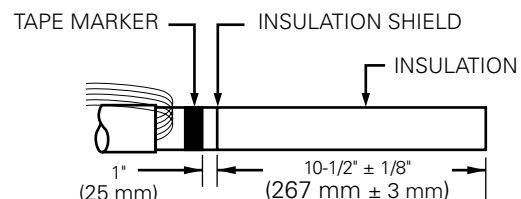

Figure 4. Line illustration of cable stripback.
- Remove insulation shield 10-1/2" (267 mm) from end of cable. (Refer to Figure 4.)
- Measure 1" (25 mm) from end of insulation shield. (Refer to Figure 4.)
- Wrap two (2) turns of tape to serve as marker for cable adapter location.